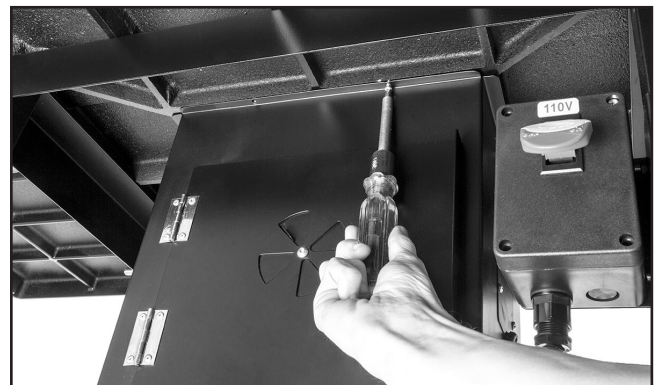

Figure 30. Attaching dust box to table.
24. Install dust box (see **Figure 30**) underneath table with (4) 10-24 x $\frac{3}{8}$ " Phillips head screws.